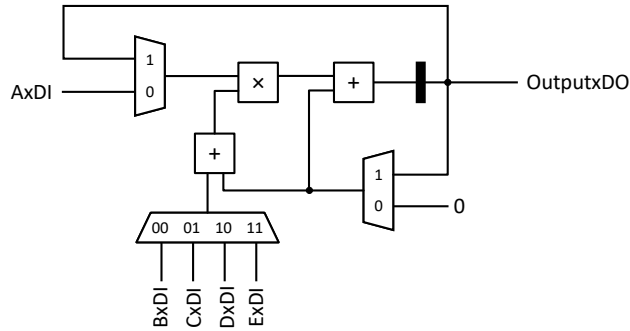

Figure 3: Diagram of Task 6.1.
We consider a datapath shown in Figure 3. The area and delay specifications of the operations (and the registers) are provided in Table 1. Assume that the inputs are stable at  $t_{\Delta} = 0$ . Remember that the time-per-data-item is defined in both clock cycles and time (nanoseconds). The time-per-data-item in clock cycles is the number of computation cycles between releasing two subsequent data items, that is, producing two results.
Consider the schematic of the iteratively decomposed datapath in Figure 3. This circuit processes 5 numbers over multiple cycles. We distinguish the following four path groups with the corresponding minimum and maximum delays:
1. Which of the four path groups is not meaningful (has no path) in Figure 3? For the meaningful path groups, please estimate the min and max of these, i.e.,  $t_{xx}^{min}$  and  $t_{xx}^{max}$ .